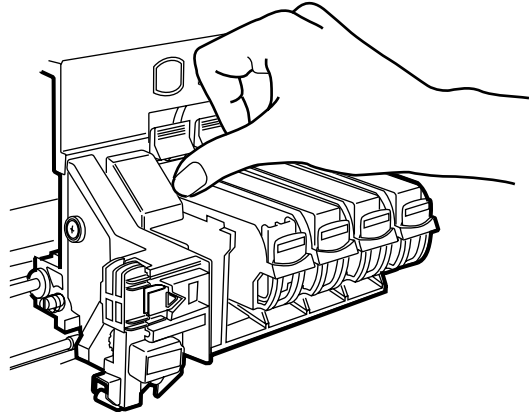

Figure 1-405
- 8) Pressing as shown in figure1-405, install the BJ print head in the carriage.